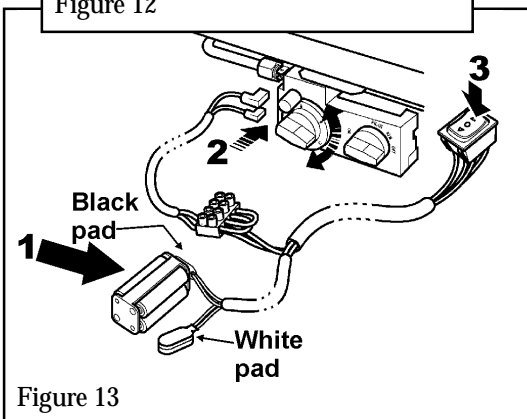

Figure 13
2. Temporarily connect the **black** connector pad to the control unit - See figure 13.
3. Operate the switch. This should cause the flame control knob to rotate anticlockwise. See figure 13.